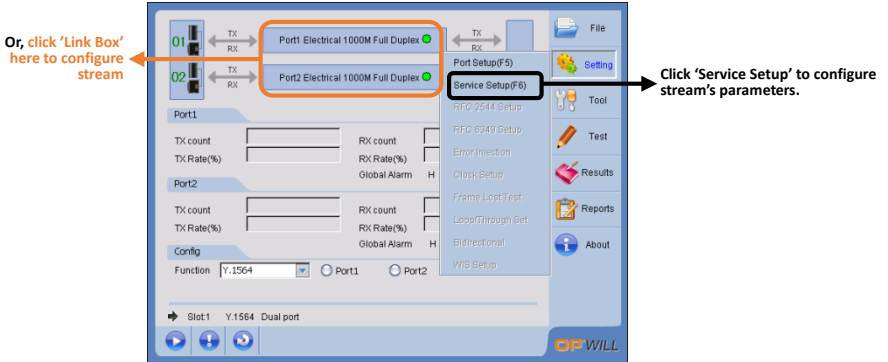
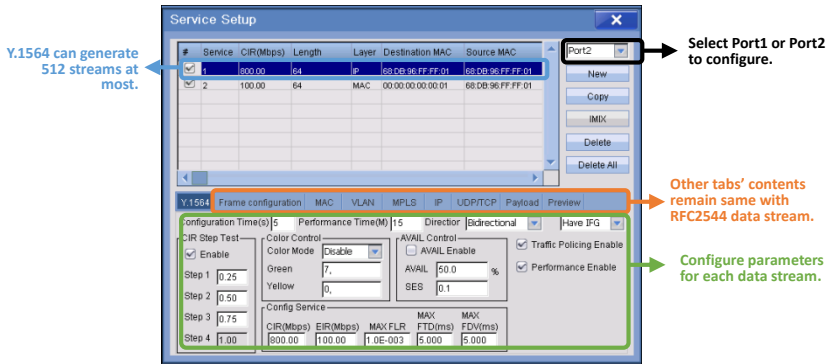

Figure 3.7.2 Enter Y.1564
Figure 3.7.3 Data Stream (Y.1564)
- Step 3: After all parameters of port have been set completely, select 'Service Setup' from 'Setting' sub menu, or click 'Link Box' to configure data stream parameters: Figure 3.7.2, and Figure 3.7.3: